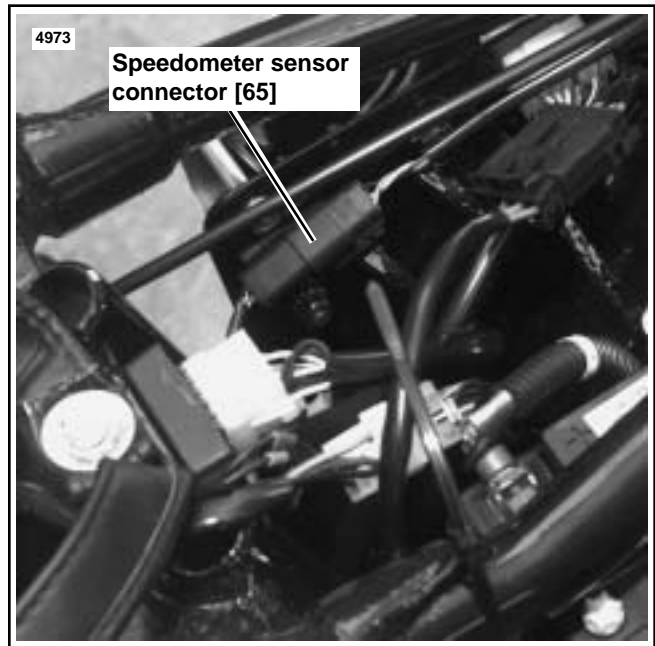

Figure 1. Speedometer Sensor Connection [65]
See Figure 1. The 3-place speedometer sensor connector [65] is located on the frame beneath the seat. Remove connector from t-stud and disconnect. Cut cable tie holding sensor wires to right rear frame tube.
- 11d. See Figure 1. Route speedometer sensor cable into position under fuel tank and seat and connect 3-place connector [65]. Place speedometer sensor cable into clips underneath fuel tank. Replace cable ties holding connector [65] to frame.